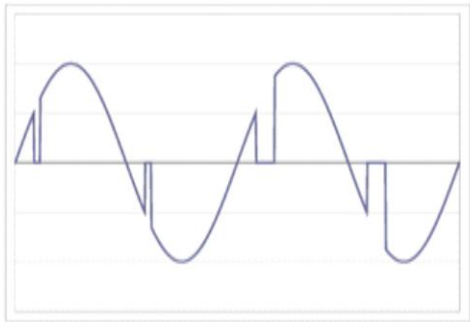

Figure 5
- Therefore, the longer the time that voltage is removed, the lower the Voltage goes (Figure 5).